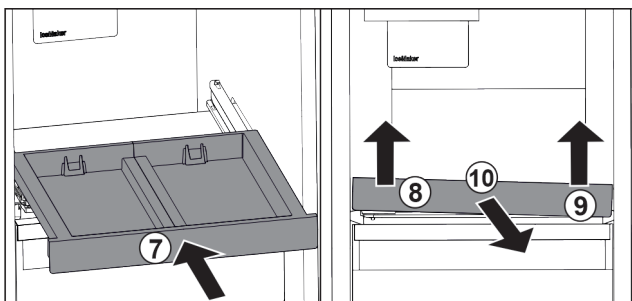

Fig. 84
- ▶ Slide in the pull-out board. Fig. 84 (7)
- ▶ Lift the pull-out board at the front left. Fig. 84 (8)
- ▶ Lift the pull-out board at the front right. Fig. 84 (9)
- ▶ Take out the pull-out board to the front. Fig. 84 (10)